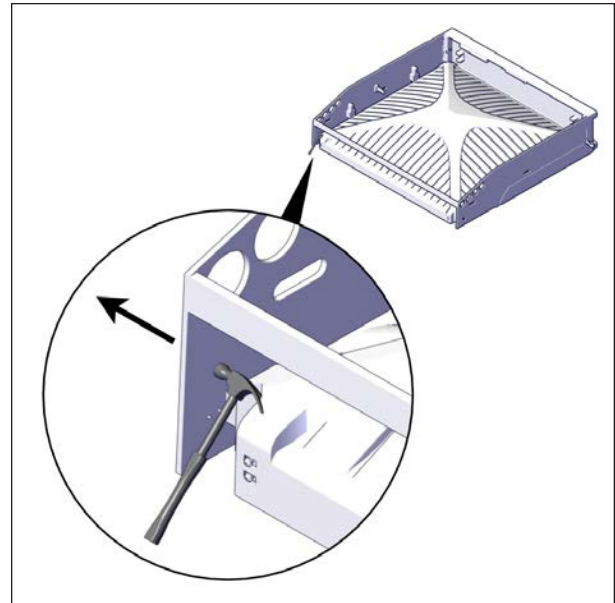

FIGURE 28: WOOD FURRING STRIP REMOVAL
17. Gently hammer off the last wood furring strips on the front of the crate. Consider hammering the side panel in an outward direction to prevent damaging the cover see Figure 28.
Be careful not to damage the cover during this process see Figure 28.